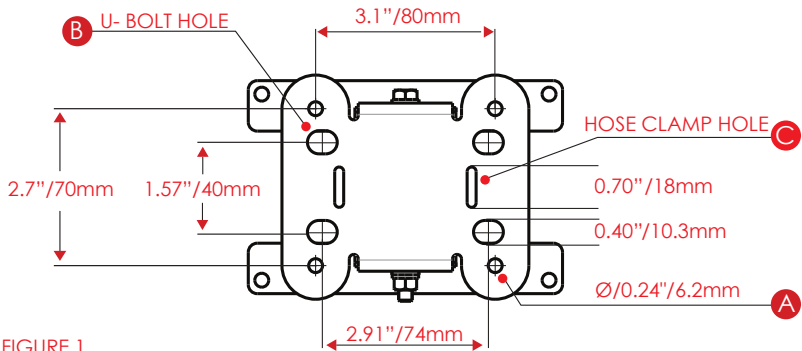

FIGURE 1
- Place M6x16 bolt with M6 washer through appropriate holes on MK and antenna bracket from the MK side, so the vertical long bolt where the M6 Nut faces down. (See figure 1).
- For wall mount: Place the rear side of MK of wall, and mark hole location marked A on Figure 1.